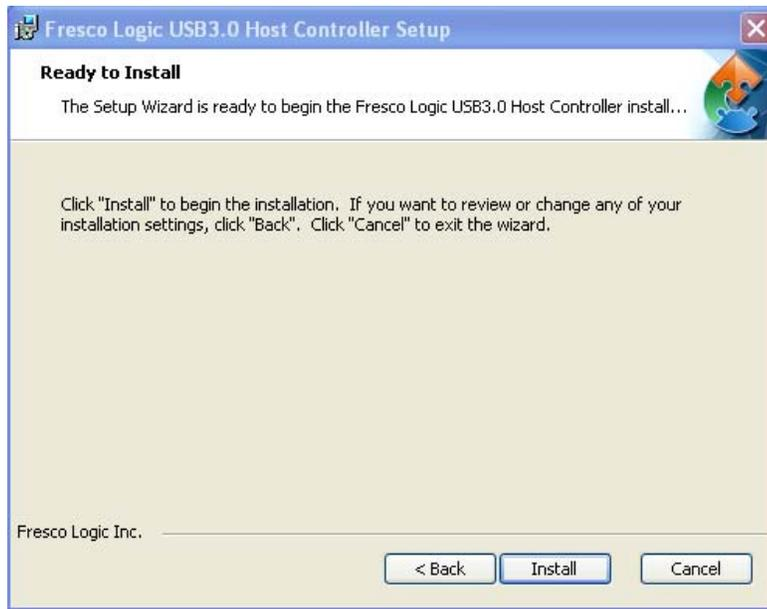

Figure 7-32: USB 3.0 Driver Choose Install Location
Step 8: The program is ready to install (**Figure 7-32**).